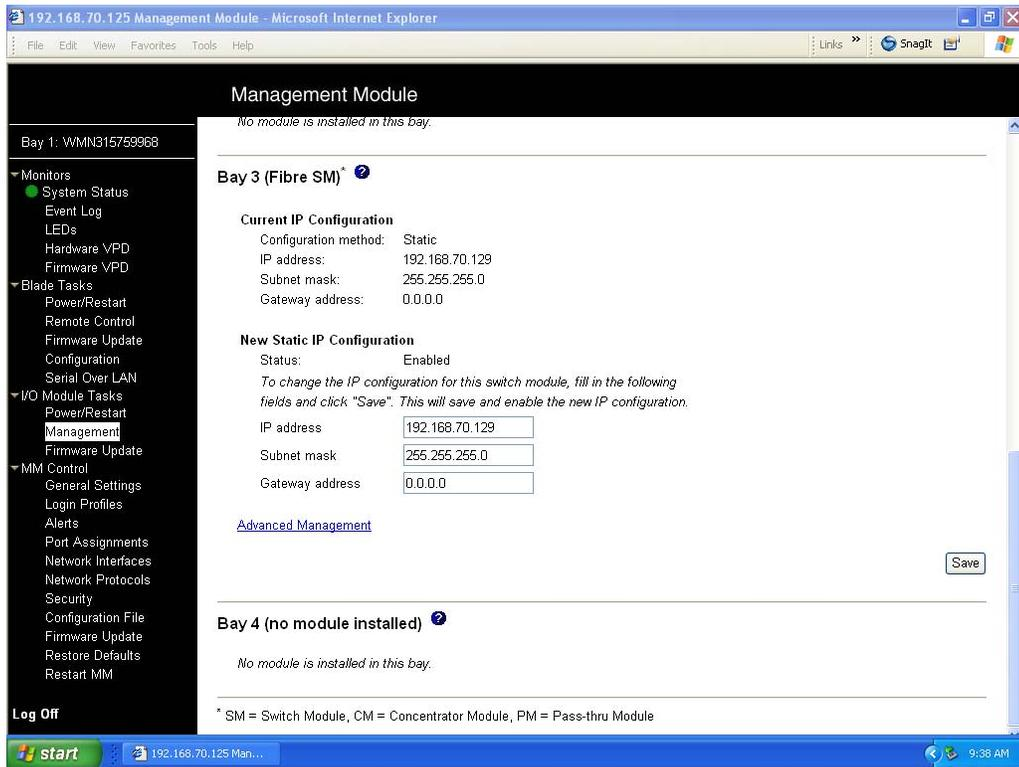

Figure 12. Switch Management window showing switch module 3 example
5. Click the link for either Switch Module 3 or Switch Module 4. A window similar to the one in Figure 12 on page 25 opens.